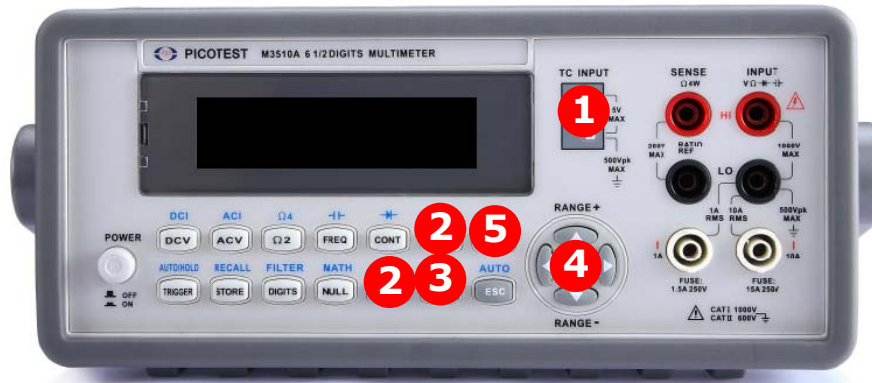

Figure 4-10
1. Select a type and matched an adaptor correctly as shown in **Figure 4-10**.